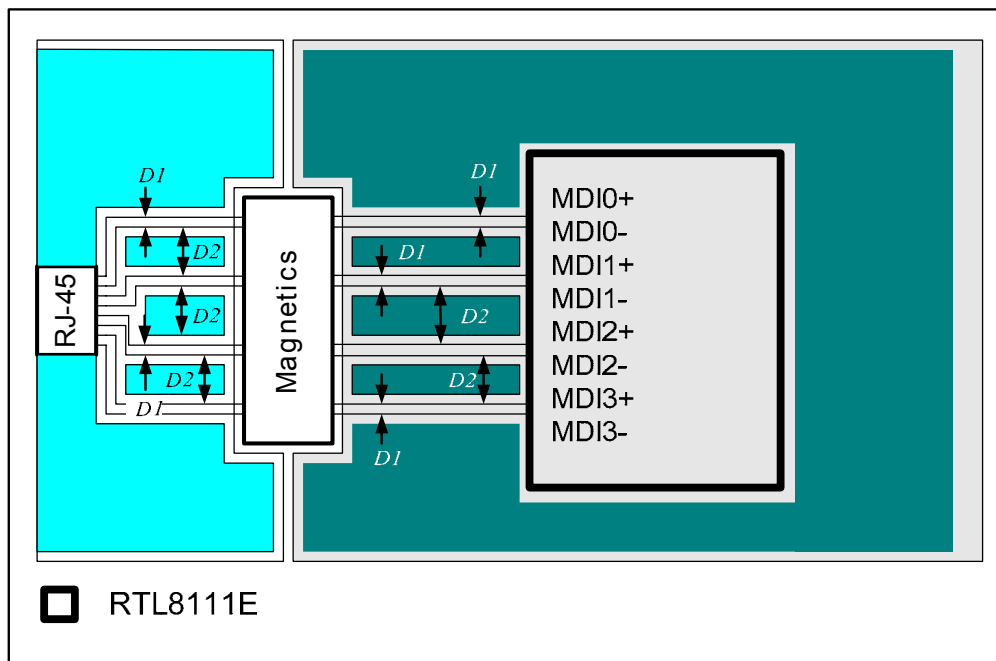

Figure 2. Signal & Trace Routing
- Traces routed from the RTL8111E-GR to the 10/100/1000M magnetics, and to the RJ-45 connector, should be as short as possible. The 12cm maximum length between the RTL8111E-GR and magnetics is achievable only when there is no interference. It is also very important to keep all four differential pair signal traces (MDI0+/-, MDI1+/-, MDI2+/-, MDI3+/-) equal in length. The two traces of each pair should be placed close to each other (D1) since they are differential pair signals to each other and provide a strong canceling effect on noise. The width of D1 should be calculated to have 100Ω impedance (Figure 2).
- We suggest that there should be more than 30 mil spacing between different differential pairs to minimize cross-talk coupled from other pairs (D2 in Figure 2). In addition, Ground Plane shielding can be used to separate all four signal pairs. However, a good layout should avoid the following situations: